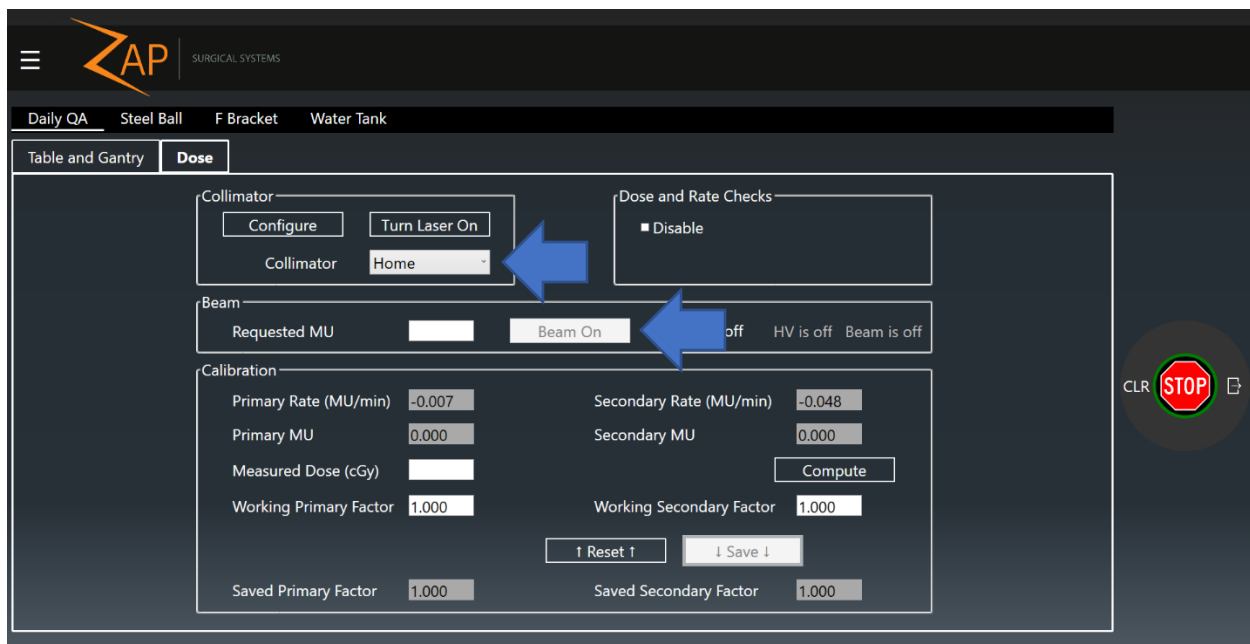

Figure 3-13 Daily QA page, Dose tab. Arrows highlight input for collimator selection and the setting of exposure.
9. Click on the **Dose** tab (see Figure 3-13).